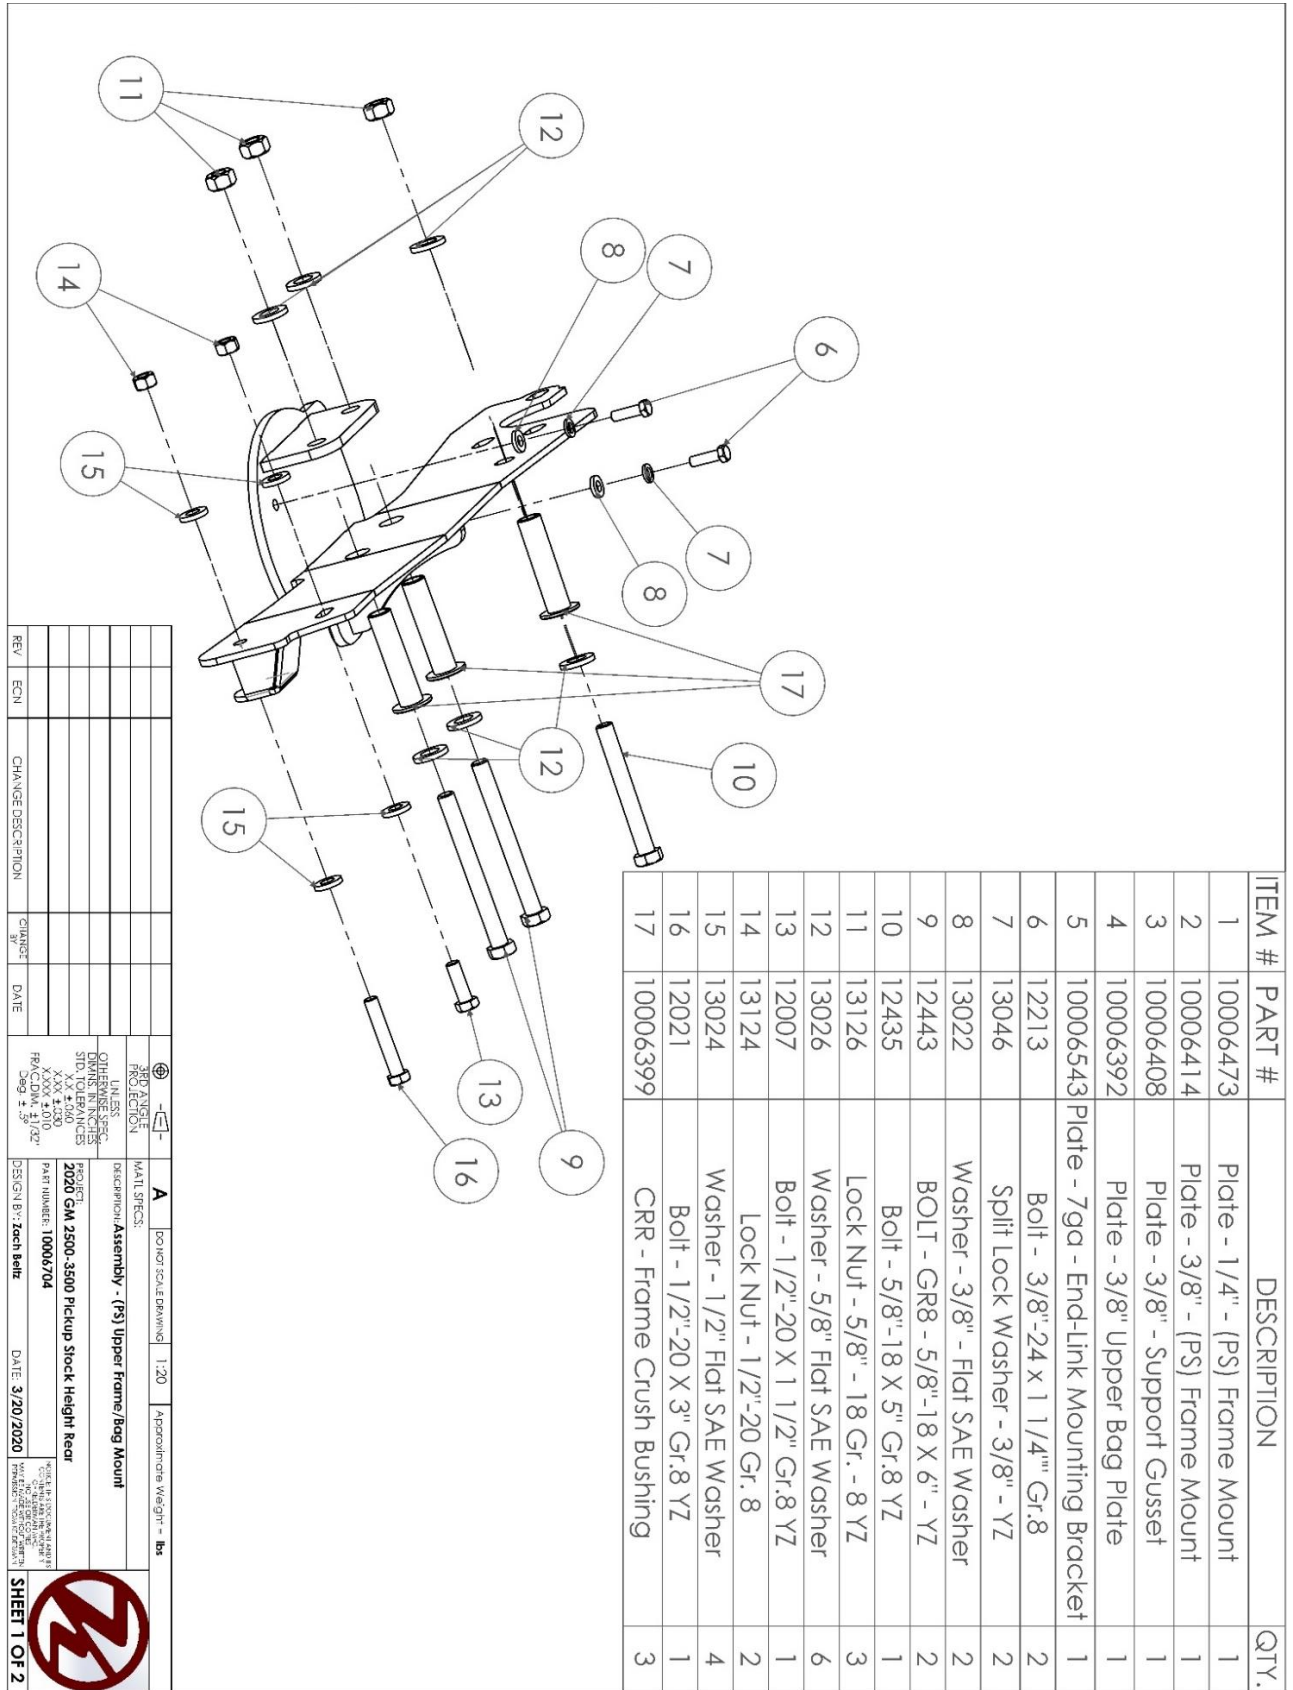

Figure 9
- 8:** Mount the upper bag mount to the frame on the driver's side. Use the  $5/8"$  x  $5"$ , P/N 12435, and the  $5/8"$  x  $6"$  bolts, P/N 12443, along with the Crush Bushings, P/N 10006399. Also install the  $1/2"$ -20 x  $1\ 1/2"$  bolt P/N 12007. Do not install the three forward bolts yet, as they go through the front trailing arm mounts as well. Install the crush bushings through the upper bag mount and the holes that you drilled into the frame. See figures 9 and 18.